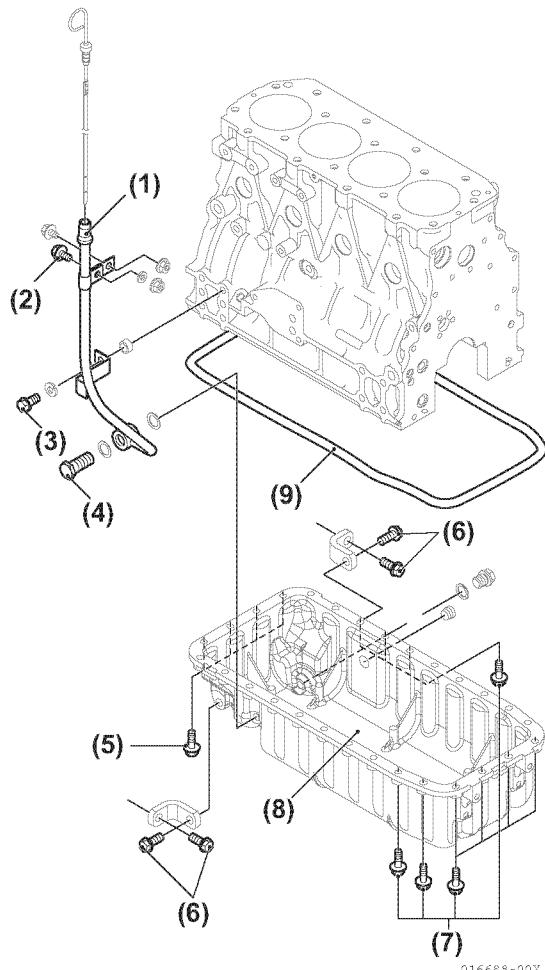

Figure 8-10
2. Remove bolt (**Figure 8-10, (2),(3)**) securing oil dipstick tube to cylinder block or support. Remove piping bolt (**Figure 8-10, (4)**) and oil dipstick tube (**Figure 8-10, (1)**) from oil sump.
3. Remove bolts (**Figure 8-10, (5),(6)**) that secure oil sump to flywheel housing.
4. Remove bolts (**Figure 8-10, (7)**) securing oil sump to cylinder block.
5. Remove oil sump (**Figure 8-10, (8)**) and gasket (**Figure 8-10, (9)**).